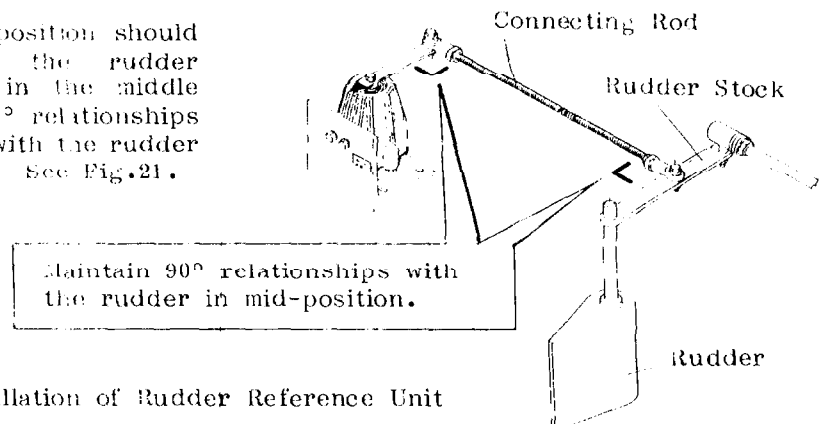

Fig.21 Installation of Rudder Reference Unit
- 1) Middle rudder position should correspond to the rudder reference unit in the middle position, and 90° relationships are maintained with the rudder in mid position. See Fig.21.